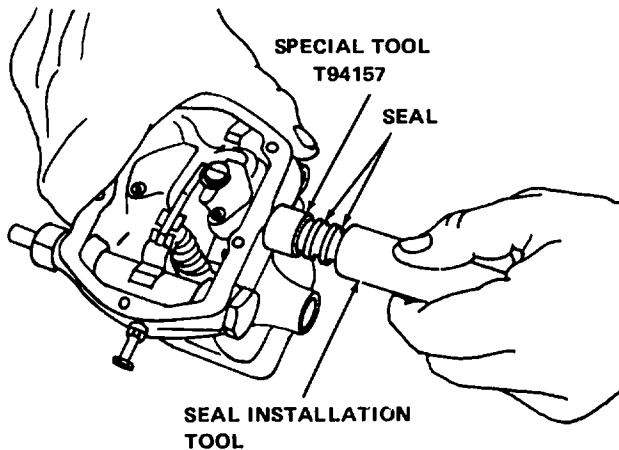

Figure 11-29. Governor Seal Installation
(38) Place seal installation tool (Special Tool T94157) on terminal shaft (24, figure 11-5) and slide seals (25) onto tool with cups of seals facing each other. Press seals (25) into bushing (44) with seal installation tool until seated (refer to figure 11-29).